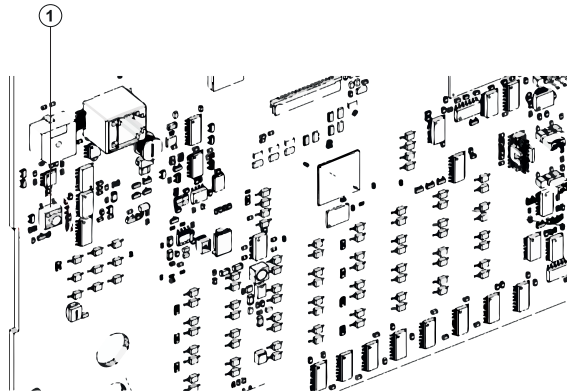

Fig. 5: Repeater on the CUI board
- 2 Press the **Reset** button inside the repeater on the CUI board, near the keyswitch shown in Fig. 5.